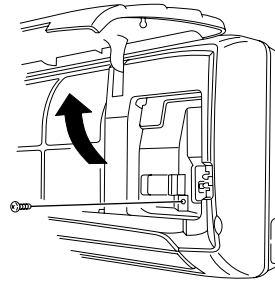

Fig. 20
- (1) Hold both corners of the air intake grille, then pull out and up to open.
- (2) Remove the screw on the right side cover plate and open the cover. (Fig. 20)